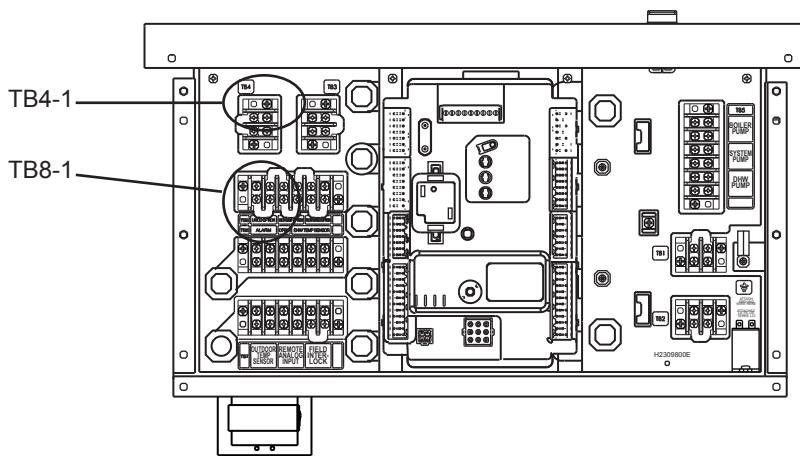

Fig. B1-5 - Check for 24V AC at TB8-1
9. Connect a volt-meter between TB4-1 and TB8-1. See Fig. B1-5. If 24V AC is present here, this means that the safety interlocks are connected (or jumpered out), and the switches are closed, allowing the unit to fire when a “call for heat” arrives. If you see 24V AC here, this means that the following safety interlock switches are OK: